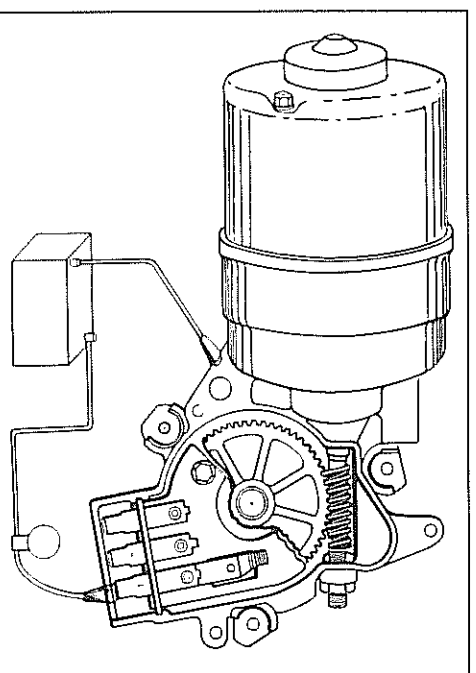

Fig. 20—Test Lamp Connections
- b. To double check operation of park switch, slide gear and shaft out of housing far enough to disengage gear teeth from worm shaft. Turn gear so that gap in ring can be positioned over the raised part of the parking switch and slide gear back in housing. Connect a test light as shown in Figure 20. Test lamp should not light.